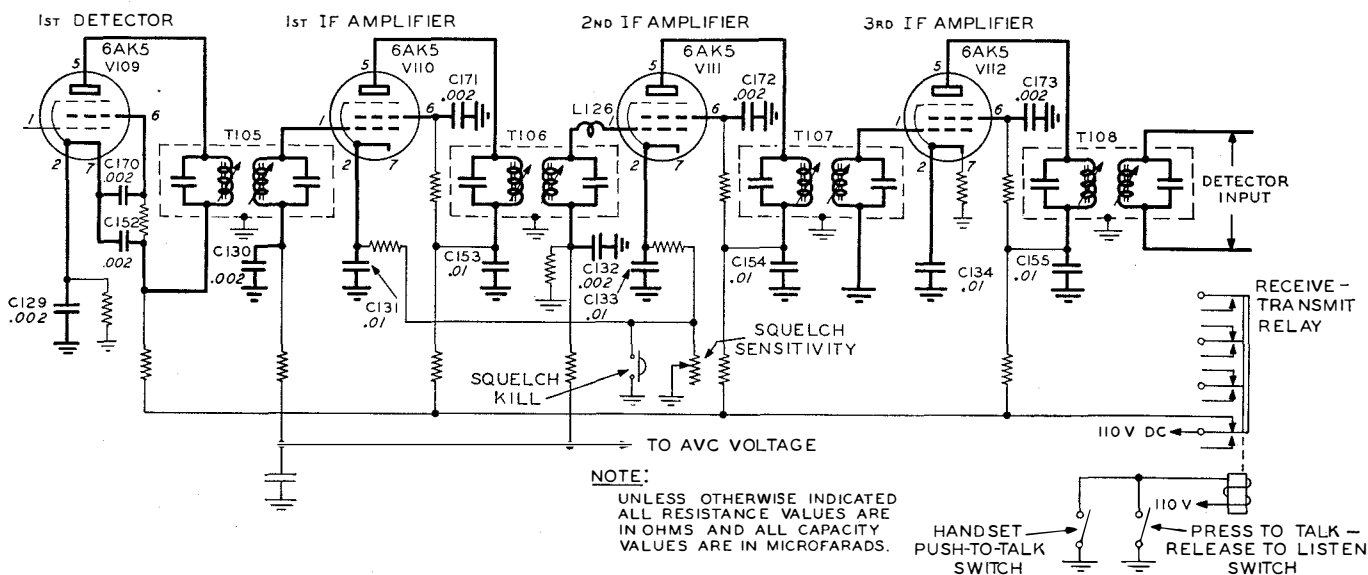

Figure 4-12—IF Amplifier Circuits
(2) IF CIRCUIT. (See figure 4-12.) — Three stages of intermediate frequency amplification are provided. The primary and secondary windings of